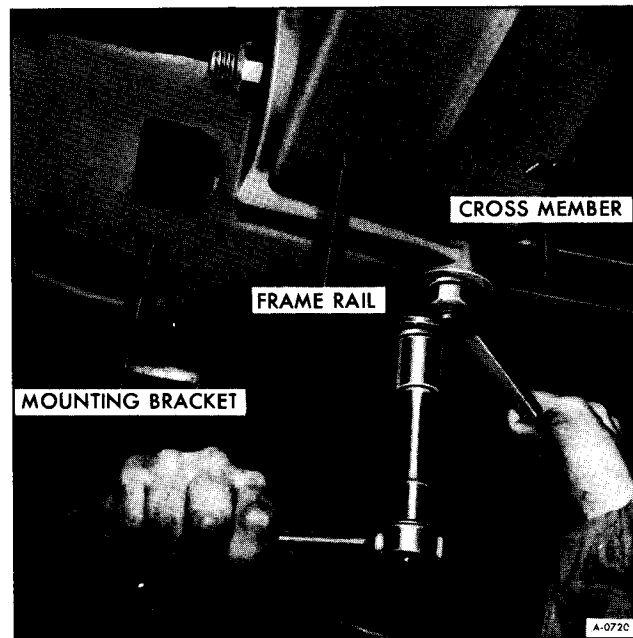

Figure 20—Removing Mounting Bracket Retaining Bolts
10. Support mounting bracket with floor jack. Referring to Figure 20, remove two bolts holding mounting bracket to crossmember. Remove four bolts holding mounting bracket to frame rail.